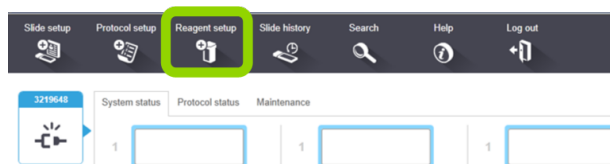

Figure 27: Reagent setup icon
1. Select the **Reagent Setup** icon (see Figure 27).